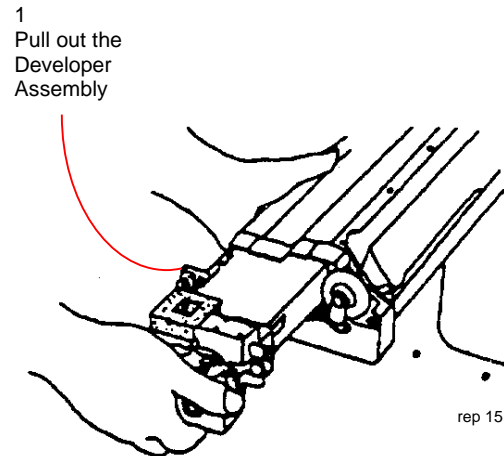

Figure 2. Pulling out the Developer Assembly
5. (Figure 2): Gently pull out the Developer Assembly and place it on a flat work surface.